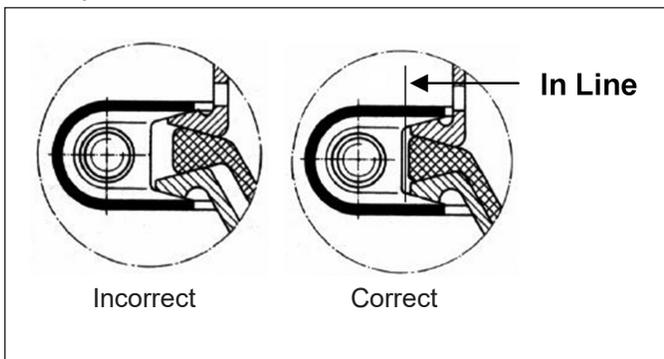

Figure 5 – Correct Diaphragm Position
6. Align the clamp band to the correct position and with the spacer in place between the flanges, use welding pliers to bend the band around the housing. Insert the bolt and engage the clamp band nut. Before tightening, check that the two housings and the diaphragm are aligned correctly - See *Figure 5*. Torque the clamp band nut to an initial torque of 11 ft. lbs. Leak test the band with a soap solution while the actuator is still on the workbench. (100 SCCM leakage is permissible.) Adjust and retighten as needed to a maximum final torque of 13 ft. lbs.